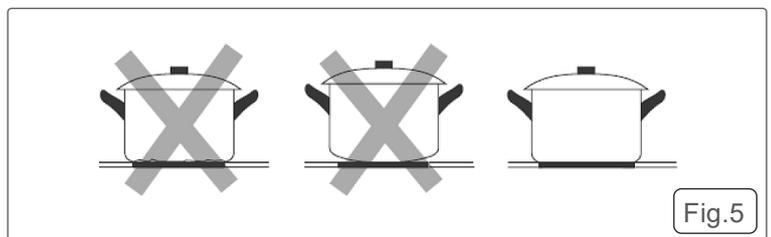

Fig.5
- **DO NOT** use cookware with jagged edges or a curved base. Ensure that the base of the pan is smooth, sits flat against the glass surface, and is the correct size for the cooking zone. Always centre your pan on the cooking zone. See fig.5. When moving pans, always lift them, **DO NOT** slide, to avoid scratching the glass. See fig.6.